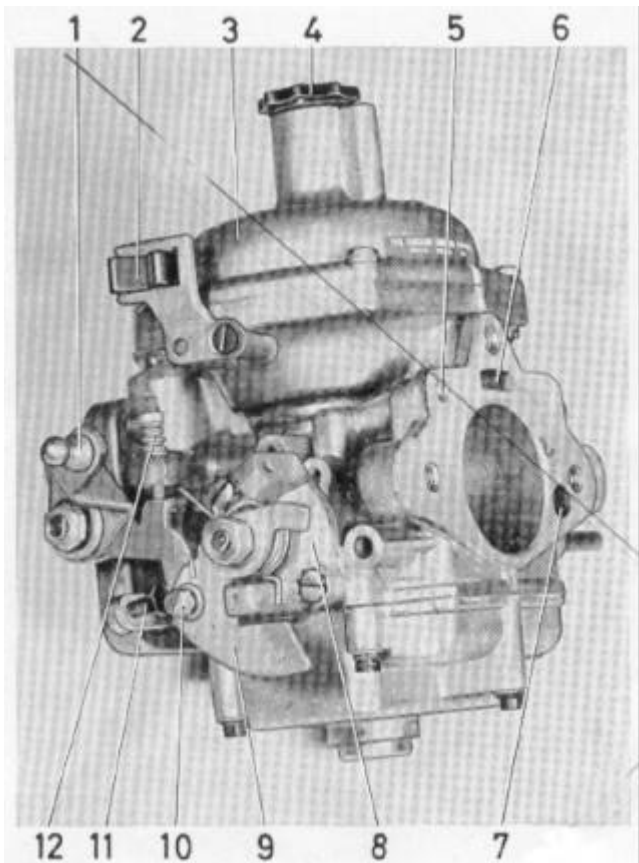
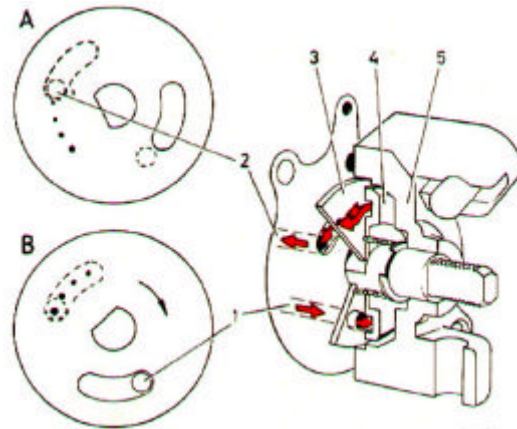

Fig. 64 Stromberg-carburettor, left side, B 20 A
Fig. 71 Cold-start device
The carburettor for the B 20 A engine is shown in Figs. 64 and 65. It has been designed with a view to obtaining cleaner exhaust gases by means of an exhaust emission control system.
To facilitate starting during cold weather, the carburettor is provided with a cold-start device (Figs. 71 and 72). (For the B 20 B engine, only on the rear carburettor.)
The cold-start device consists of a choke lever (3, Fig. 71) which is provided with four calibrated holes and an elongated opening as well as a channelled disc (4) mounted on a spindle which is operated by the choke control. On the same spindle, outside the housing (5), there is a cam disc (9, Fig. 64) with connection for the choke control pull wire. When the cold-start device is engaged, the valve disc turns and this links up the channel (1, Fig. 71) from the float chamber via one or several of the calibrated holes to the channel on the other side of the valve disc and the drilling in the channel (2), which terminates in the venturi between the vacuum plunger and choke flap. By means of this
link-up, the engine receives extra fuel (richer mixture) to facilitate cold starting. At the same time, a little extra air is obtained by means of the choke device. When the choke control is pushed in, the valve disc turns and closes the inlet to the channel. At the same time as the cam disc is operated, the throttle flap opening is also influenced in such a way that turning the cam disc opens the throttle through the fast idle stop screw (11, Fig. 64) and the lever, before any of the calibrated holes open the connection to the fuel drilling. With this arrangement, the idling speed can, if necessary, be raised by the driver of the vehicle during the warming-up period of the engine.